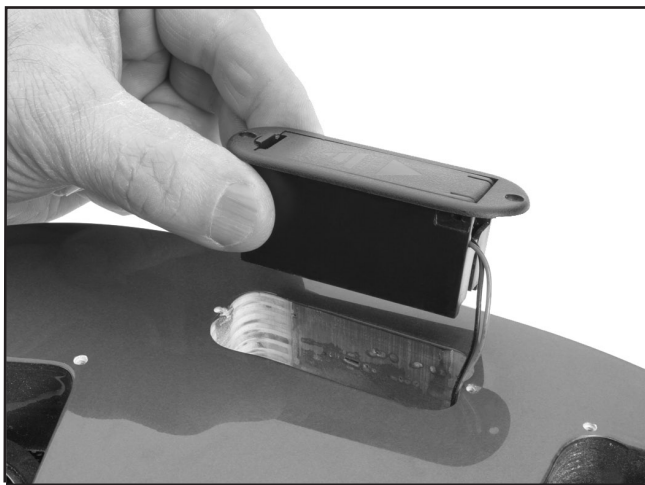

Figure 13. Installing battery case.
2. Slide the battery case (**Figure 13**) into the mortise and secure with two #2 x 1/4" black screws.